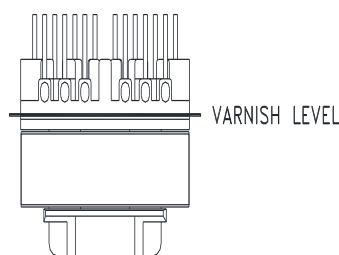

Figure 3
5. Apply 3 layers tape around transformer as figure 3.